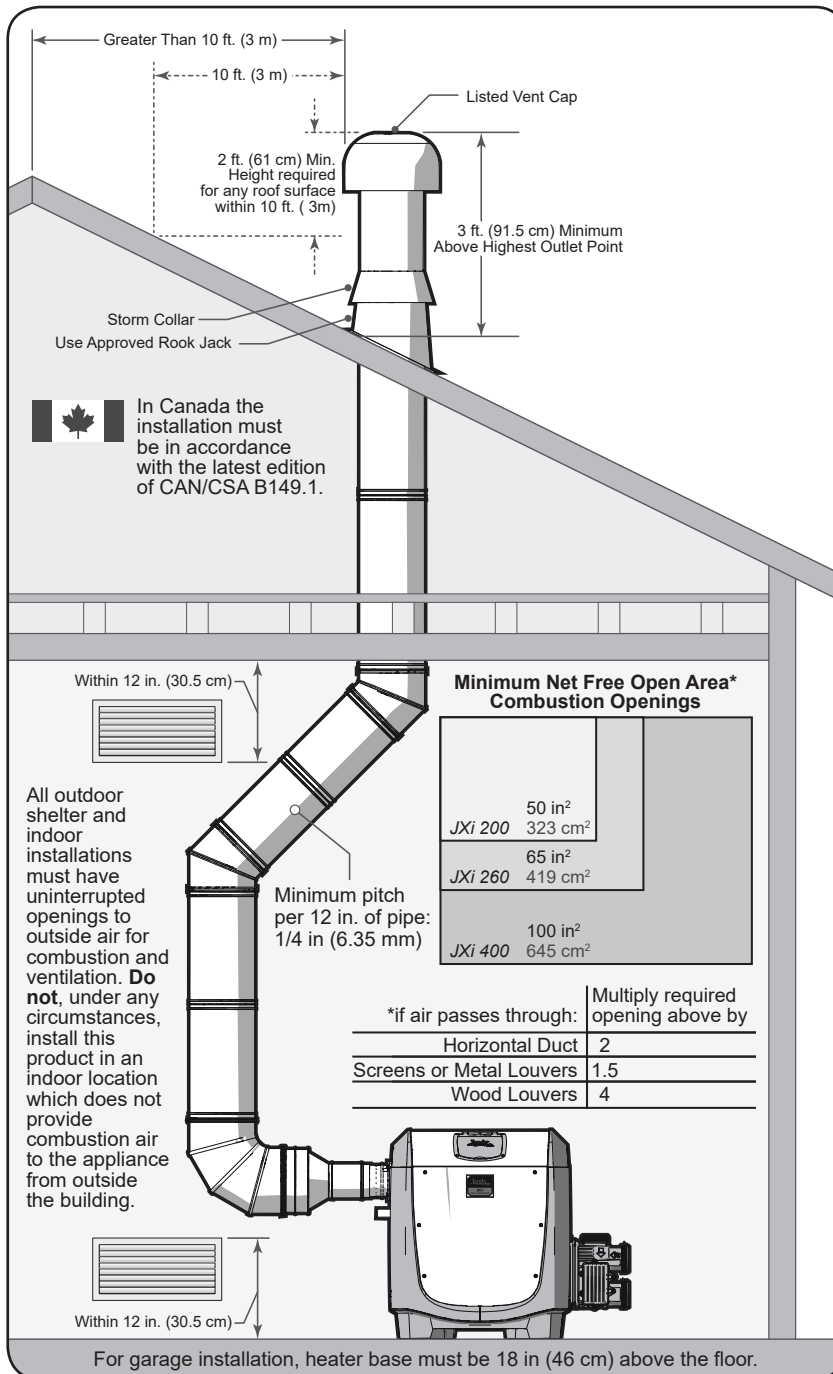

Figure 4. Indoor and Outdoor Shelter Installation
When combustion air is supplied directly through an outside wall, each opening should have a minimum free area of 1 square inch per 4,000 BTU/h (1.2 kW) input of the total input rating of all appliances in the enclosed area. If combustion air must pass through horizontal ducts, each opening should have a minimum free area of 1 square inch per 2,000 BTU/h (1.2 kW) input of the total input rating of all appliances in the enclosed area. Details can be found in *Figure 4*.
The “Minimum Net Free Open Area” information from *Figure 4* is not applicable in installations where exhaust fans or blowers of any type are used. Any equipment which exhausts air from the room where the heater is installed can deplete the combustion air supply or reverse the natural draft action of the venting system. This could cause flue products to accumulate in the room. Additional air must be supplied to compensate for such exhaust. Consult a professional engineer to ensure that installations where exhaust fans or blowers are used are designed and installed in accordance with all applicable local and national installation codes.
- Horizontal runs must be sloped upwards away from the heater to a vent terminal at a minimum of 1/4" per horizontal foot (2 cm/m). See *Figure 4*.
Category I: Appliance must be vented vertically and terminate at the roof. Vent must terminate at least 2 feet (610 mm) above any objects within 10 feet (3.05 m). Termination must pass through a properly installed and approved roof jack, a properly sized storm collar and an listed vent cap. See *Figure 4*.